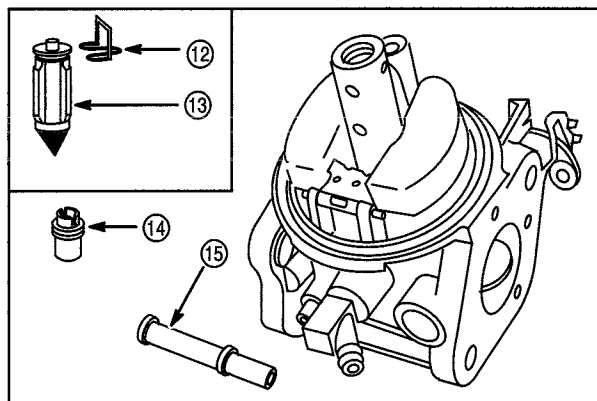

**Fig. 35**
10. Install new "E" ring (11), washer (10) and felt seal (9) onto choke shaft, **Fig. 35**.
11. Insert spring (8) and check ball (7) in to spring pocket. Compress with a small round punch.
13. Install choke plate as shown, **Fig. 35**.